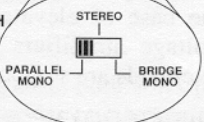

Fig. 3 Three System Connection Methods
- 3 Connect the input and output cables as shown in the first example in Figure 3.
- 3 Connect the input and output cables as shown in the second example in Figure 3. Use only the Ch. 1 input and level control.
- 4 Connect the input and output cables as shown in the third example in Figure 3. Use only the Ch. 1 input.